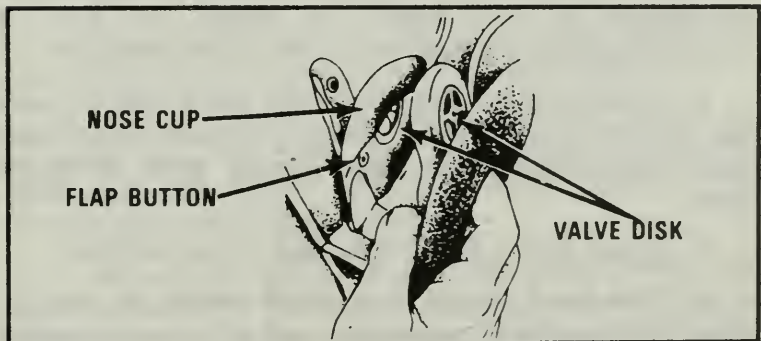

Figure 245. Nosecup assembly.
8. Check nose cup assembly for the following problems (Figure 245).